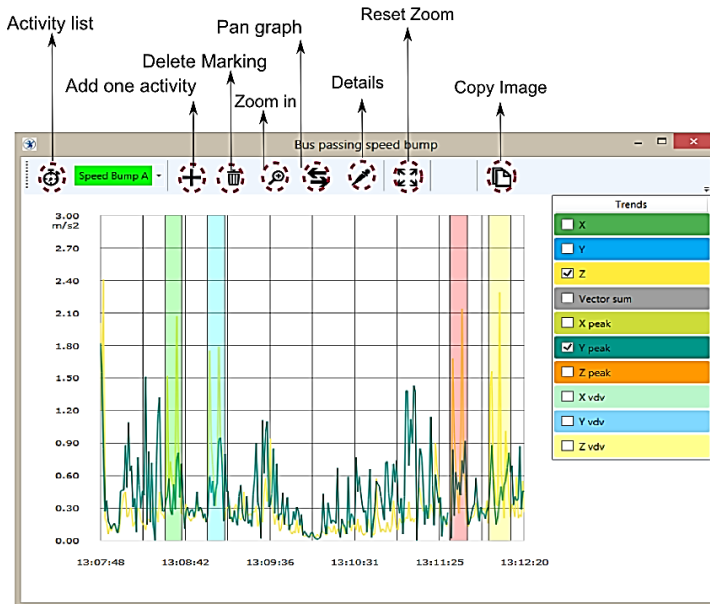

Figure4: Graph window
3. Drag and mark the area. (See figure4)